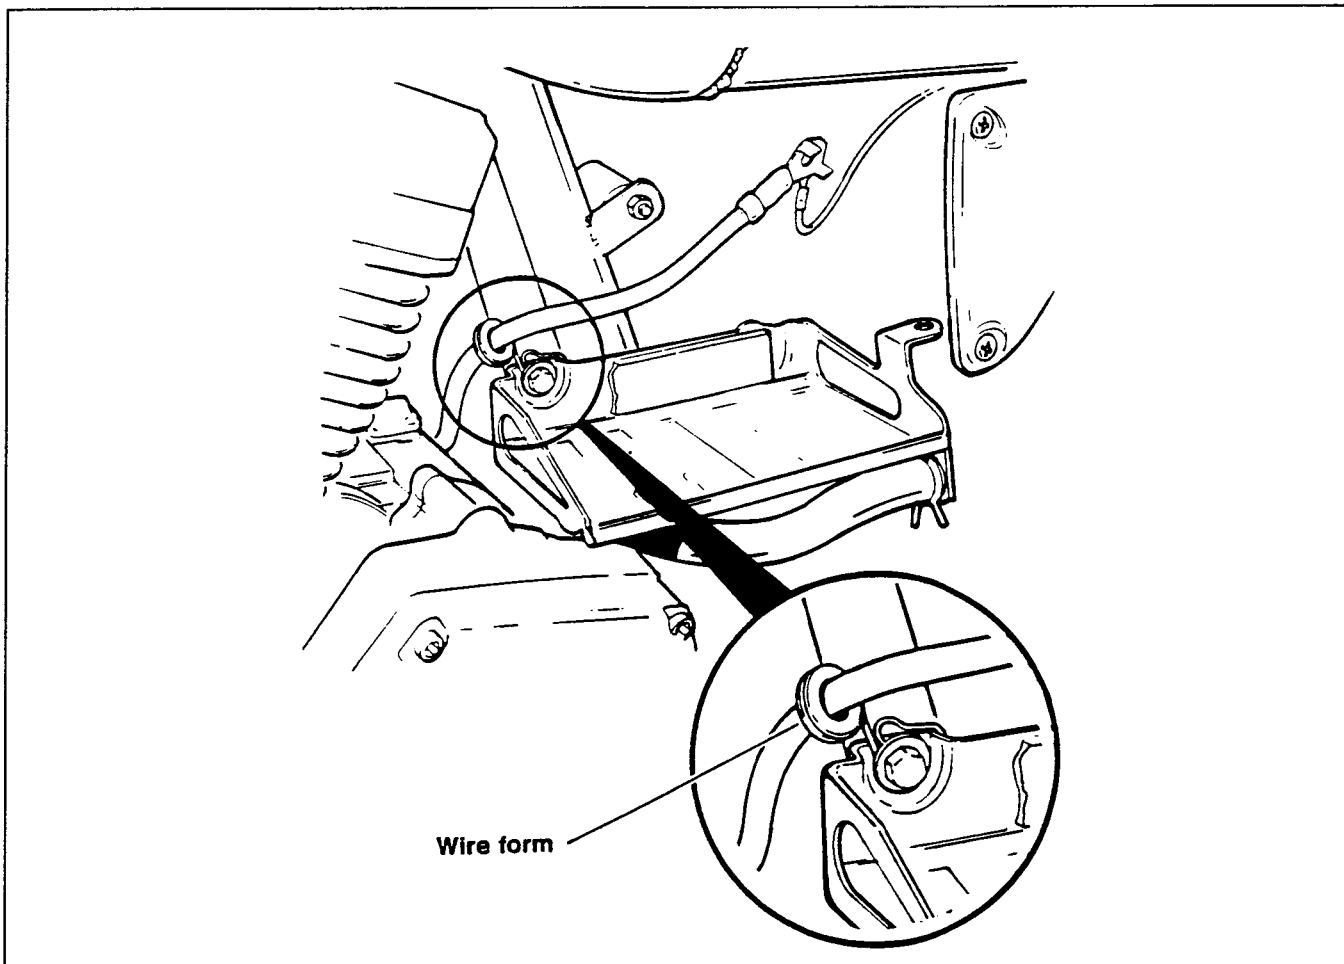

Figure 2. Cable Routing
8. See Figure 2. Route cable upward in front of oil tank. Guide cable between frame backbone and battery.